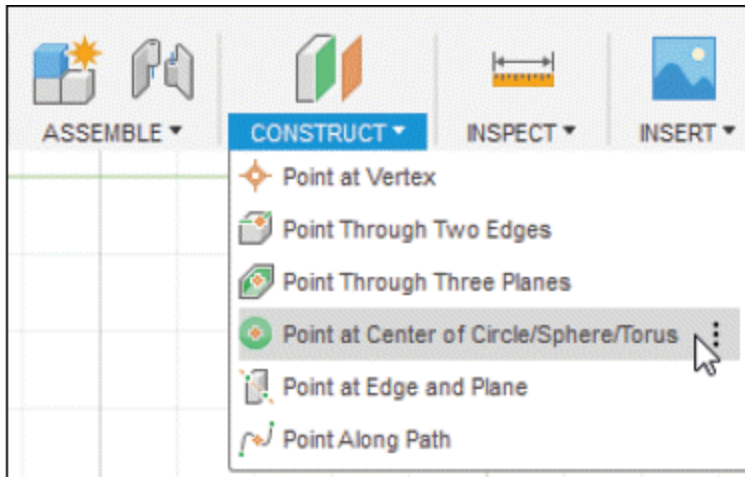
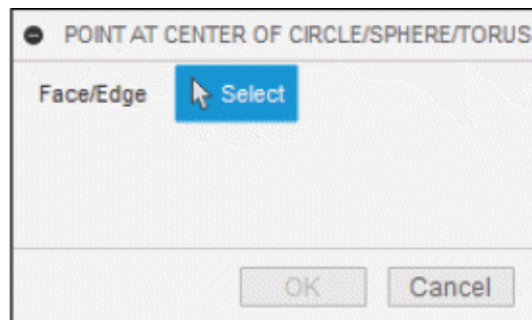

Figure-133. Point at Center of Circle Sphere Torus tool
Figure-134. POINT AT CENTER OF CIRCLE SPHERE TORUS dialog box
- Click on the **Point at Center of Circle/Sphere/Torus** tool of **CONSTRUCT** drop-down from **Toolbar**; refer to Figure-133. The tool will be activated and respective dialog box will be displayed; refer to Figure-134.